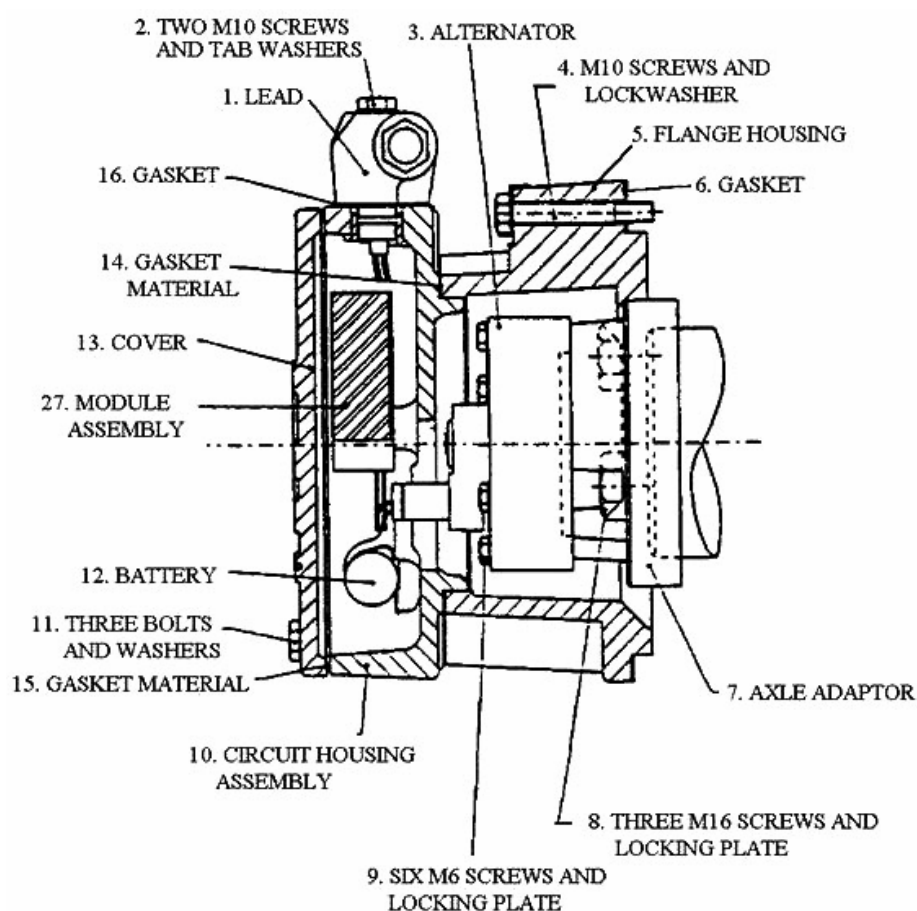

Figure 5: Girling WSP Sectioned View
3.3 Lucas Girling Equipment see Figures 5 and 6